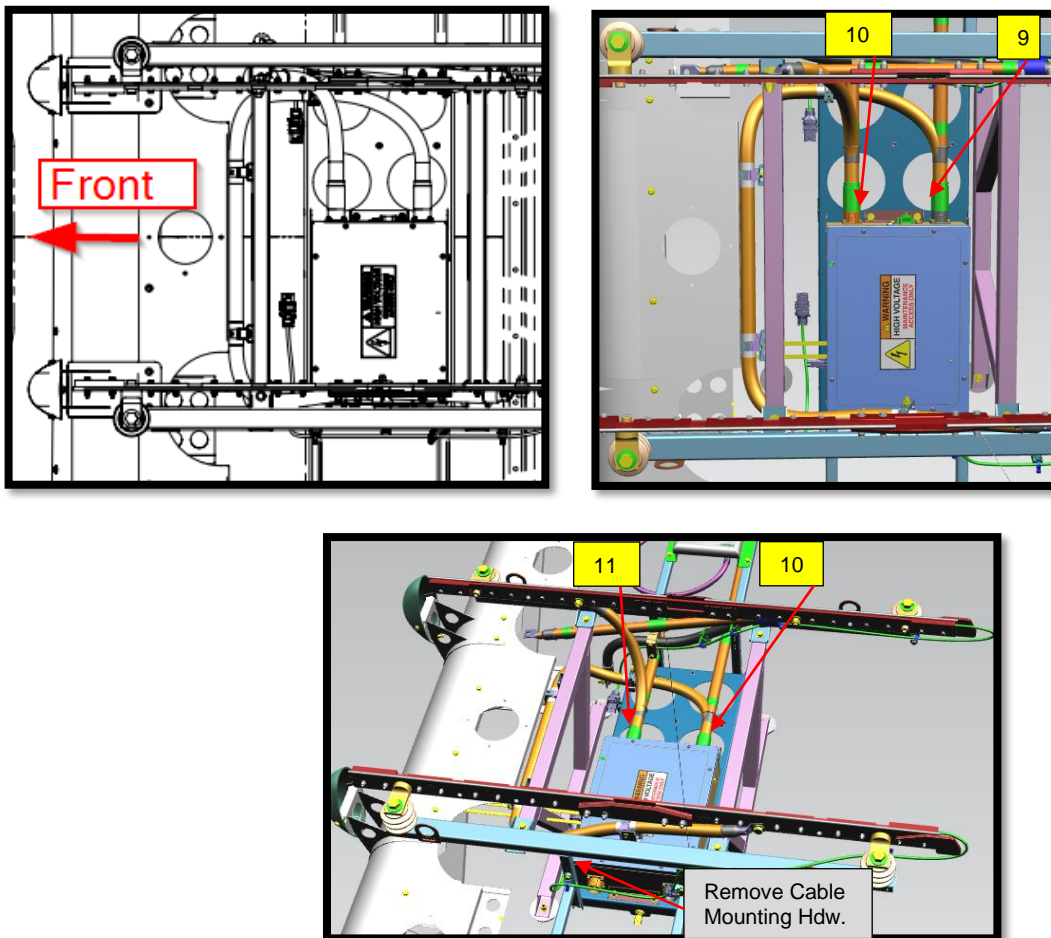

Figure 2 - OVHD HV HV NEG cable quick disconnect location reference.
8. Gain access to the DC rail switch box and disconnect the quick disconnect connectors from the overhead charge rail box for the NEG and POS cables item #9 and #10. See Figure 2.
9. Gain access to the DC charge rail and remove the cable mounting hardware to the rail for the NEG and POS cables and set aside for re-installation. See Figure 2.